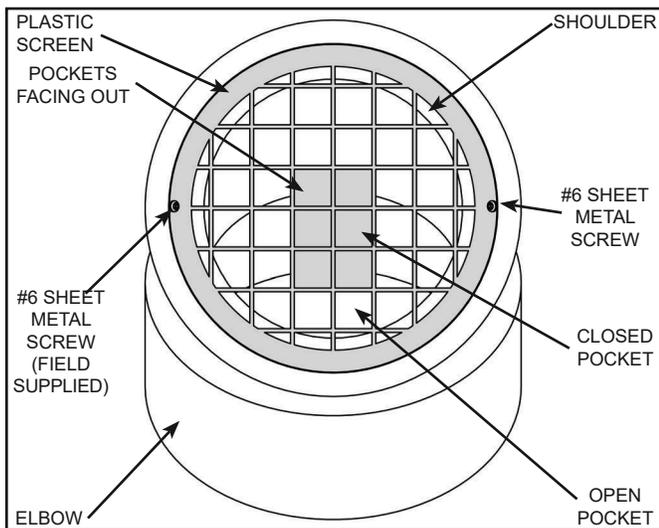

Figure 31.
- Plastic screens must be secured with two (2) corrosion resistant sheet metal screws as shown in Figure 31. This will allow for easy removal for inspection and cleaning.